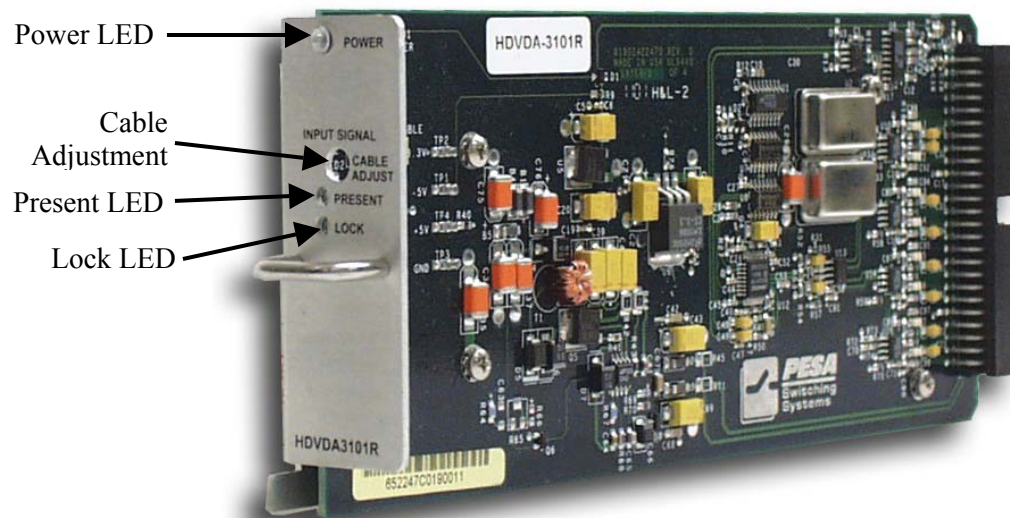

FIGURE 56: HDVDA3101R Card
The HDVDA3101R card (see Figure 56) is used with the VDA3100T frame only. This is a high definition (HD), distribution amplifier with auto equalization and reclocking that supports one input and eight outputs (1x8).
The function of the HDVDA3101R Power LED (see Figure 56 for location) is to provide a visual indication to the user that the on-board voltage regulators are operational and the board is energized. The power LED should be illuminated during normal operation. If the power LED dims or extinguishes during operation, check the operation of the VDA3100 mainframe's power supply. If the mainframe's power system is operational and the other distribution cards appear operational, then the board should be suspected of malfunctioning and should be replaced.
The HDVDA3101R card includes a Present and Lock LED visual indicators (see the previous Figure 56) along with the standard Power LED. Whenever data is being transferred, the Present LED will be illuminated and typically “blinking”. Whenever the Lock LED is illuminated, a valid HD data stream is being distributed.
There is only one user adjustment for the HDVDA3101R card, which is for the correction of the input signal cable length. Using the Cable Adjust potentiometer (see previous Figure 56 for location) and a potentiometer-tuning tool, adjust (either clockwise or counterclockwise) for Present LED illumination (blinking or steady dependent upon the data stream).